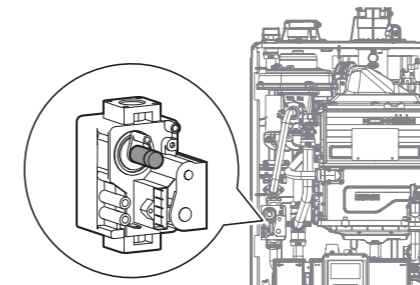

Figure 10. Set Screw Location
- c. Activate multiple zones and set the boiler to operate at 1-stage MIN mode. Measure the offset value at low fire and compare it to the values in Table 3. If the offset value is out of range, the gas valve set screw will need to be adjusted. If adjustment is necessary, locate the set screw as shown in Figure 10. Using a ⁵/₃₂ in or 4mm Allen wrench, turn the set screw no more than ¹/₄ turn clockwise to raise or counterclockwise to lower the offset value.